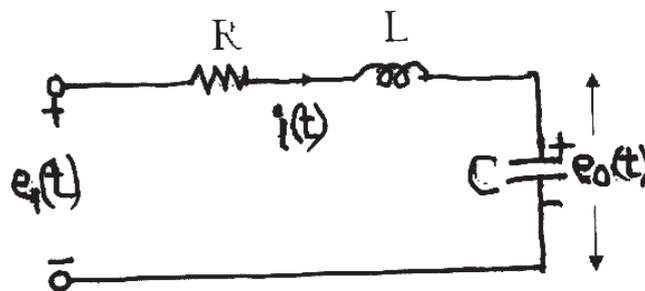

Fig. 1
- Q7)** a) An electrical system is represented using R, L and C as shown in the Fig. 1 Write the equations that describes the behaviour of this system in time domain and hence determine  $E_o(s)/E_m(s)$ . [6]